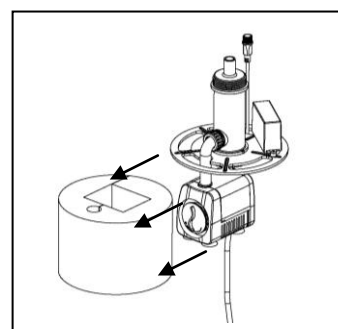

Fig. 9
5. Remove the filter pad and rinse until it is clean. Then reassemble the pump and filter assembly. Fig. 9